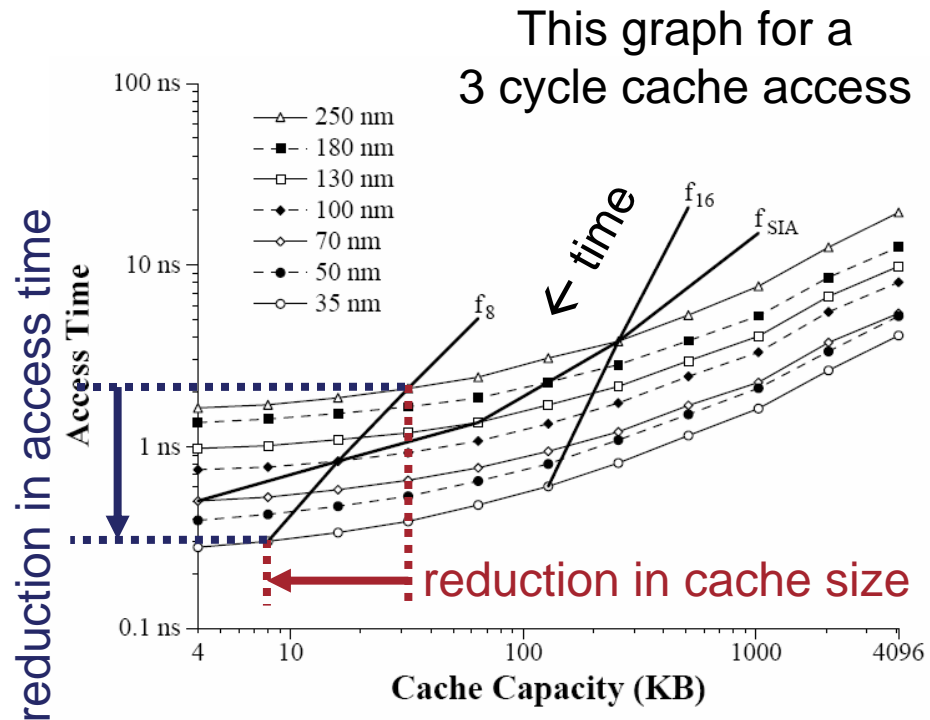

Figure 5: Access time for various L1 data cache capacities.
- Figure 5 from “Clock Rate versus IPC: The End of the Road for Conventional Microarchitectures” Vikas Agarwal, M.S. Hrishikesh, Stephen W. Keckler, and Doug Burger